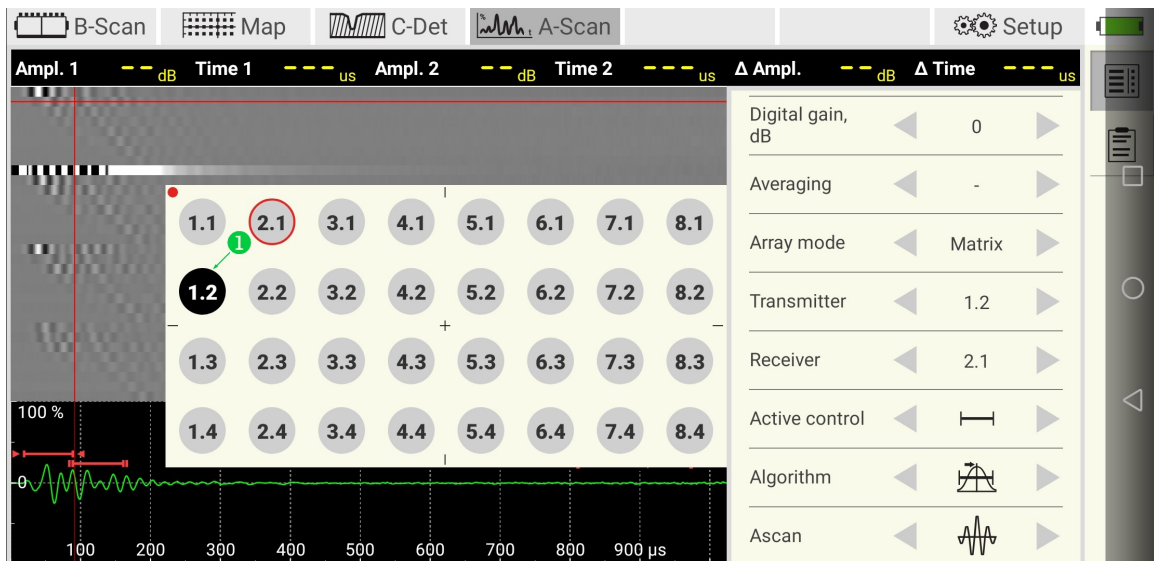

Figure 13: Selecting a transmitter in matrix mode
In the `matrix` mode, the operator can select rather a single transmitter than a group ① (Figure 13). Receiver selection flow does not change.